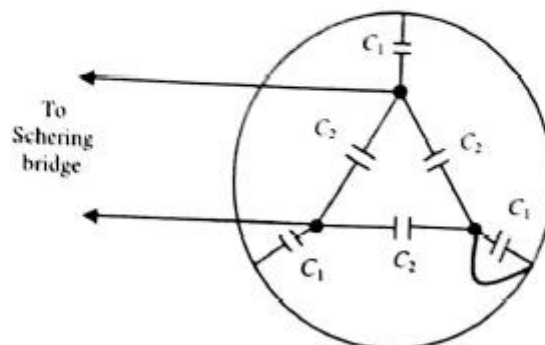

Figure 14.16 Measurement by Schering bridge.
3. Measure the capacitance  $C_2$  between two conductors by means of a Schering bridge and connecting the third conductor to the sheath to eliminate one of the  $C_1$ 's, as shown in Figure 14.16. Thus,